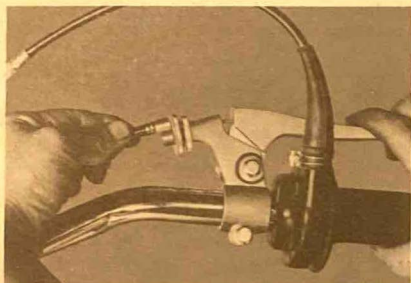

Fig. 30
- a. Fully loosen the lever lock nut, and screw in the adjusting bolt until it becomes tight so that the lever lock nut slot is aligned with the adjusting bolt slot. Next, connect the cable end to the lever, and hook up the outer cable to the lock nut. Then, fully pull in the lever, and release it abruptly. At the same time, pull the outer cable quickly. This makes easy the connection of the outer cable to the adjusting bolt. (Fig. 30) For detailed cable routing, refer to "CABLE ROUTING DIAGRAMS".